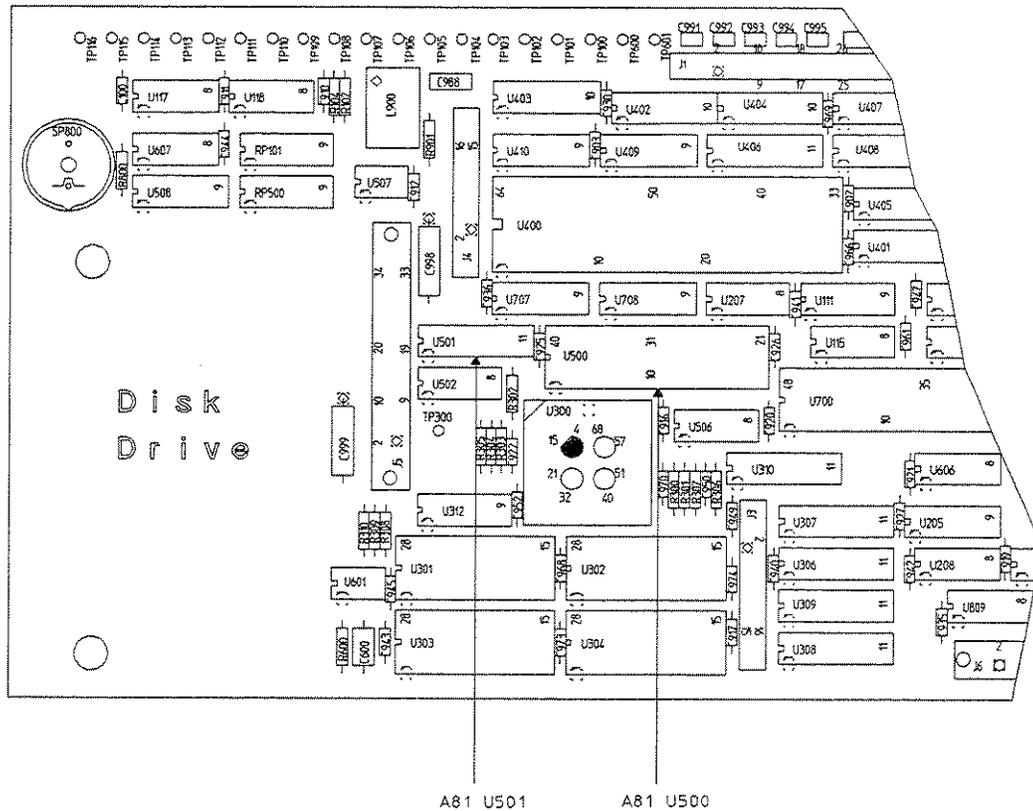

Figure 5-14. Disk Drive Controller Test Locations
- e. Using a logic probe, check that the TTL signals in table 5-13 are toggling (see figure 5-14 for test locations).